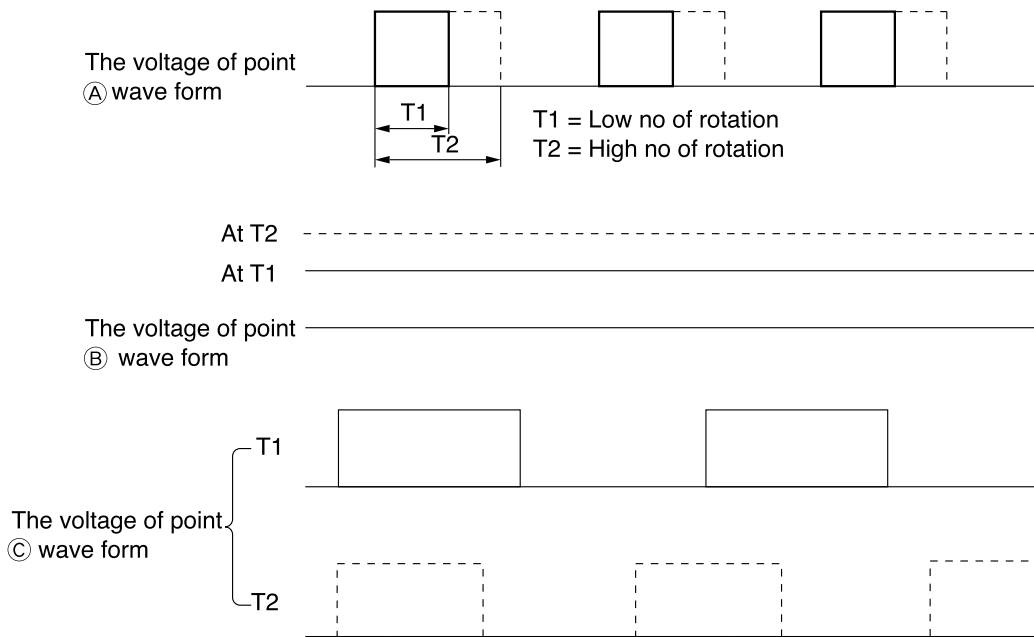

Fig. 6-2
- The 15.7 kHz PWM pulse shown in Fig.6-2 from the micro computer pin 54 is output to point A. The width of this pulse changes with instruction number of rotations.